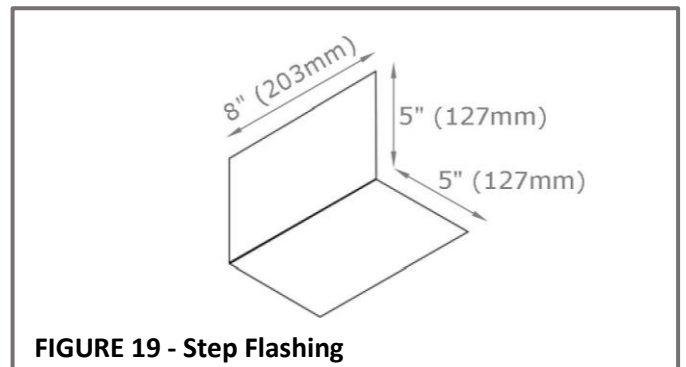

FIGURE 19 - Step Flashing
- F-WAVE recommends using **10" x 8" (254mm x 203mm) step flashing** metal. See **Figure 19**.